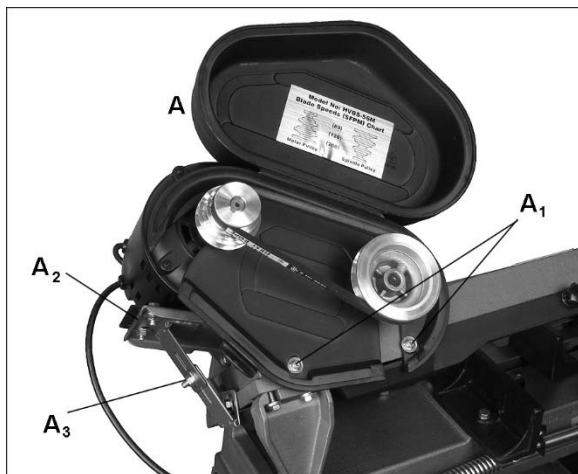

Figure 6
4. Slide pulley cover (A, Figure 6) over pulley spindles and secure with two screws (A₁).